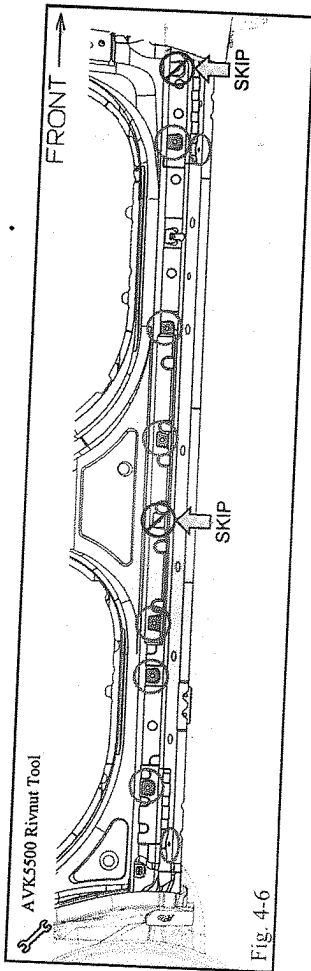

Fig. 4-6
- (i) Using the rivnut tool, install eight (8) M6 rivnuts ① (six at the side, two at the bottom) into the vehicle rocker holes, as indicated in Fig. 4-6.